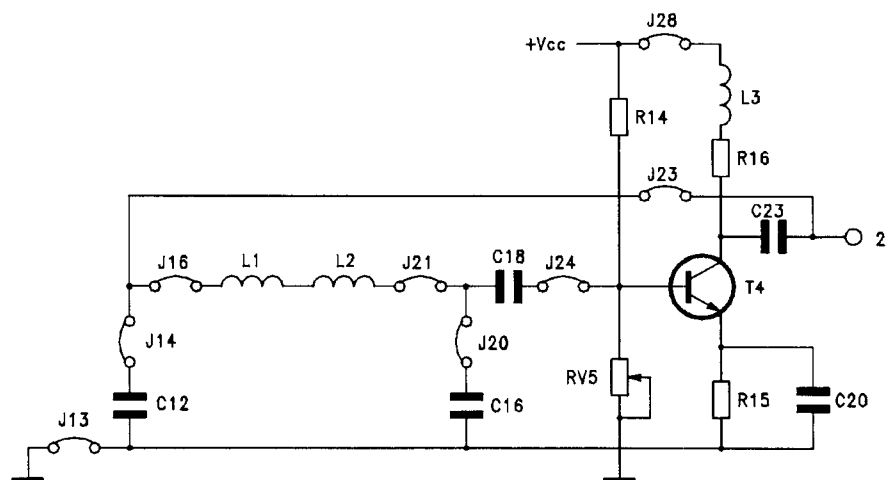

Fig. B34.4
- Insert jumpers J13, J14, J16, J20, J21, J22, J24, J28 to produce the circuit of figure B34.4.
- Return the circuit to the starting conditions of figure B34.4, removing jumper J15 and connecting J14, and adjust RV5 to obtain oscillation